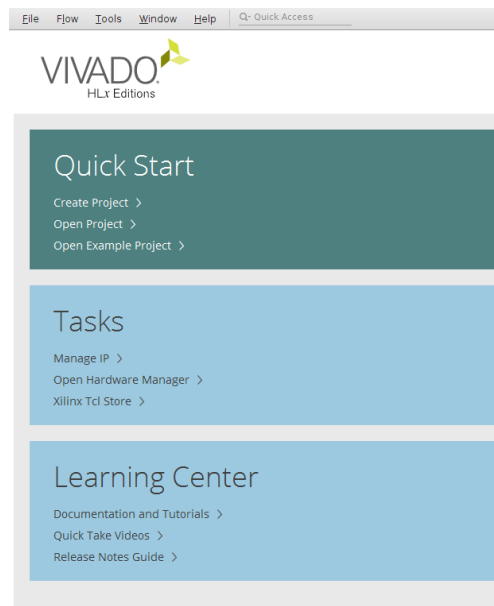

Figure 1: Quick Start and Open Project
3. Open the Vivado project by first opening Vivado and then clicking Open Project under Quick Start (i.e., Figure 1). The Vivado project should be available in your lab2 repository directory. Navigate to the Lab 2 project folder you extracted from your Canvas zip file and select the Lab 2 project file inside that folder. You may need to click **yes** to allow the project to be updated your version of Vivado too.